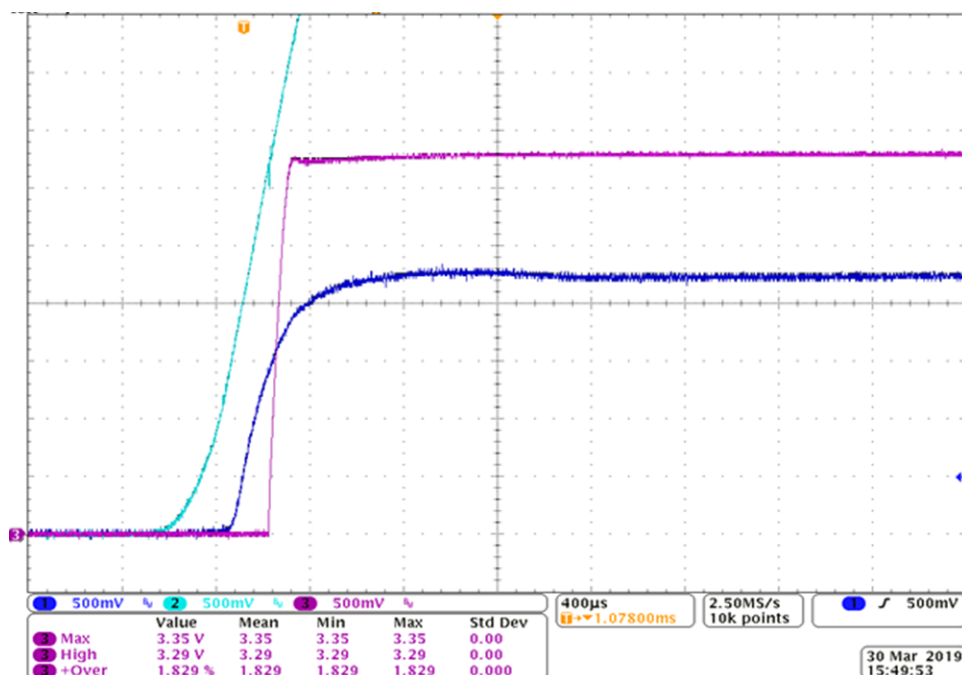
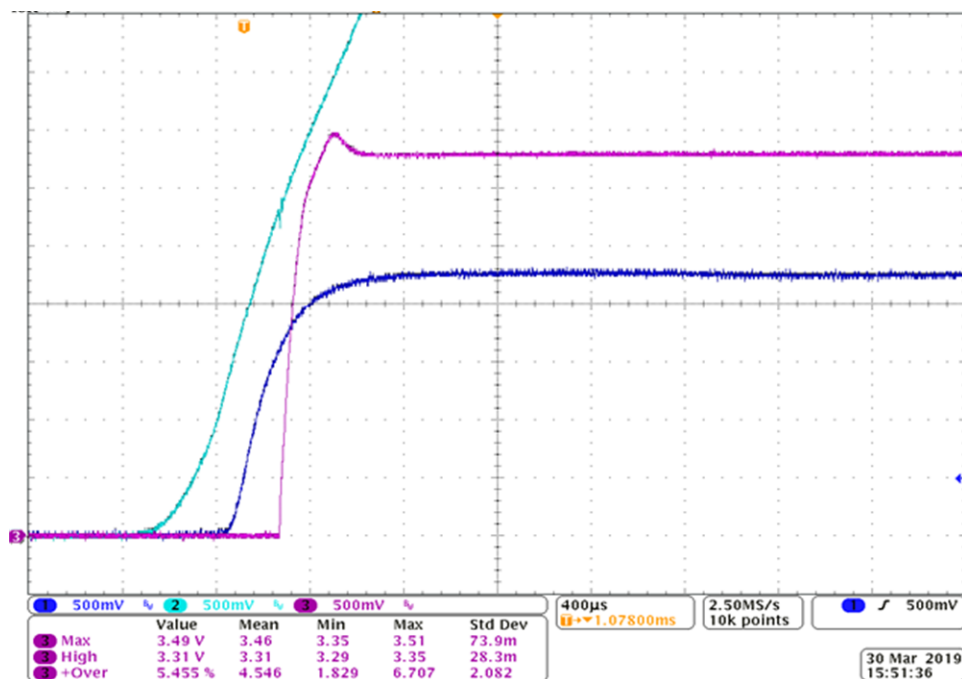

Figure 8. Quick Slew Rate of the V_{IN} Without Overshoot
Figure 9. Slow Slew Rate of the V_{IN} with Overshoot
1. Follow any instructions listed in the data sheet to keep the V_{IN} slew rate quick enough to allow V_{OUT} to follow the natural start up of the V_{REF} . If no explicit instructions are given, a plot showing the LDO starting up using the V_{EN} signal with the V_{IN} established shows how much time the LDO needs to start up naturally. Figure 8 and Figure 9 show the comparison (Green: V_{IN} ; Red: V_{OUT} ; Blue: V_{EN}). The slew rate of the V_{IN} in Figure 8 is 5 V / ms. The slew rate of the V_{IN} in Figure 9 is 8 V / ms.